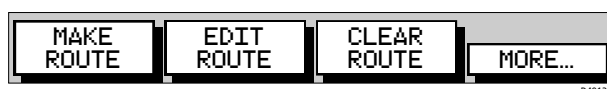

Figure 3-26: Route Soft Keys
1. Press the ROUTE soft key; the route soft keys are displayed as shown in Figure 3-26.